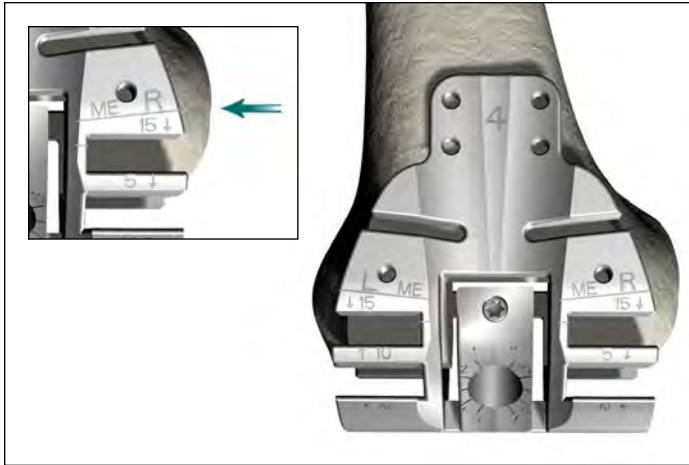

Figure 57
- Insert the TCG assembly into the femoral canal and align the TCG medial epicondyle (ME) scribe line reference mark with the medial epicondyle (**Figure 57**). The ME scribe line is 28mm from the distal surface of the TCG. When the ME scribe line is equal with the medial epicondyle, the distal surface of the TCG will be approximately located at the joint line. (The joint line can also be estimated using preoperative radiographs and anatomic landmarks.)
Repeat of Figure 57